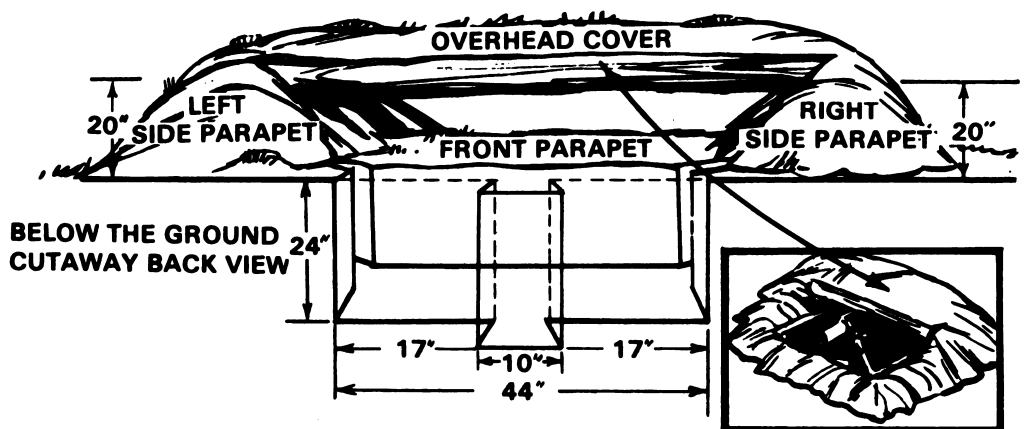

Figure 2
e. Improve the position by adding overhead cover for the crew and missiles. Dig to the flank (90° to the primary direction of fire) and use the strongest material available for the roof. Mechanized units use TOW caps. Put plastic or canvas down before throwing the dirt on the roof. This will help keep the ceiling from leaking. If sandbags are used, cover them with canvas or plastic. Wet sandbags are very heavy and may cave in. Place at least 20 inches of dirt on top of the storage/protective area (fig. 2).